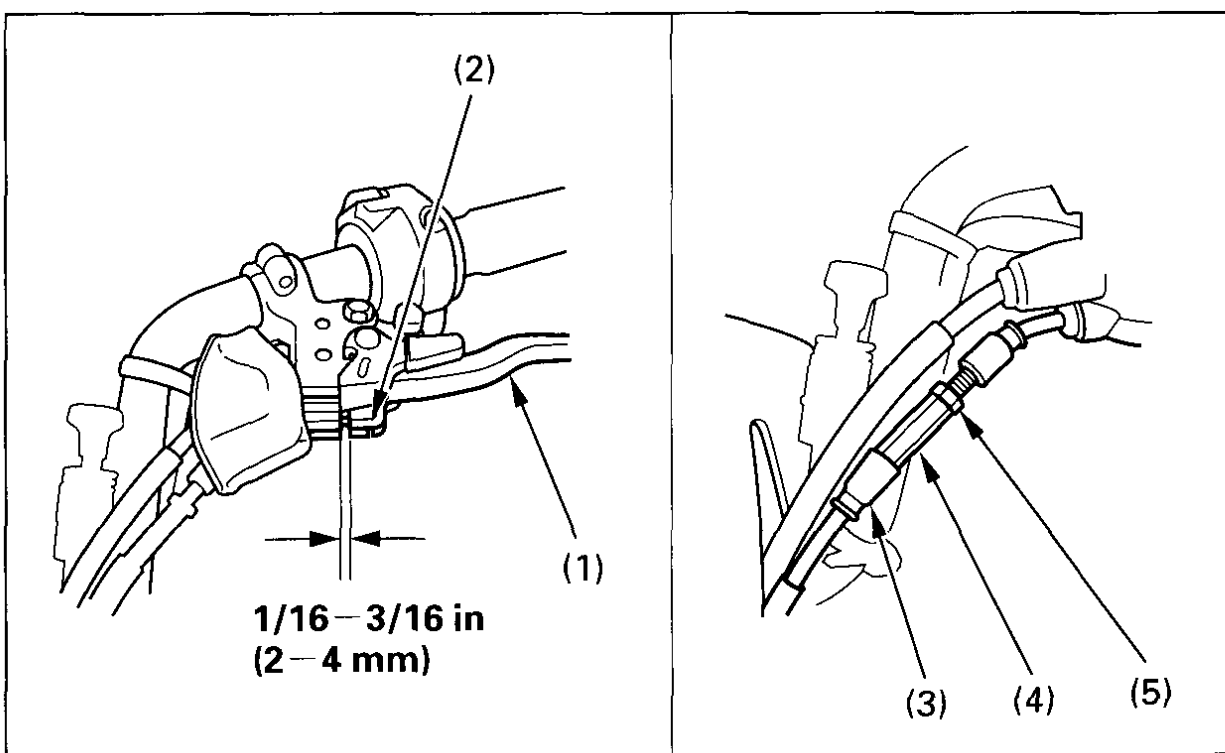

Fig. 4-17
Measure the reverse assist lever (2) free play. Free play, measured at the lever (2) end near the cable (Fig. 4-17), should be approximately: